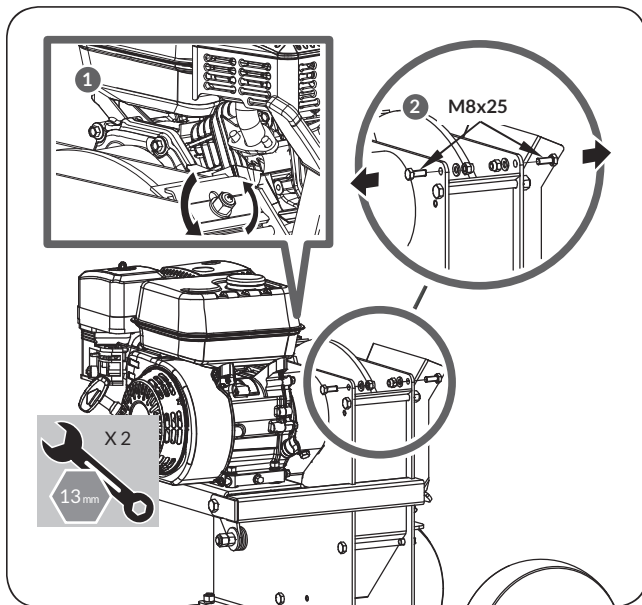

Figure 3
2. Remove the M8X25 bolts, flat washers, and nuts from the housing. Set aside for later use. (See **Figure 3**)